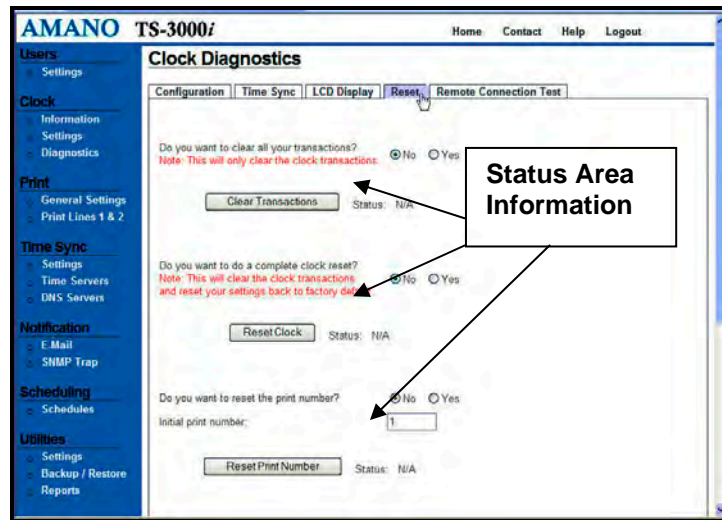

Figure 7-5. Clock Reset.
Step 1. Click on the **Diagnostics** link under Clock, and the **Clock Diagnostics** screen will appear. Then click on the **Reset** tab and the Reset screen will appear (see *Figure 7-5*).